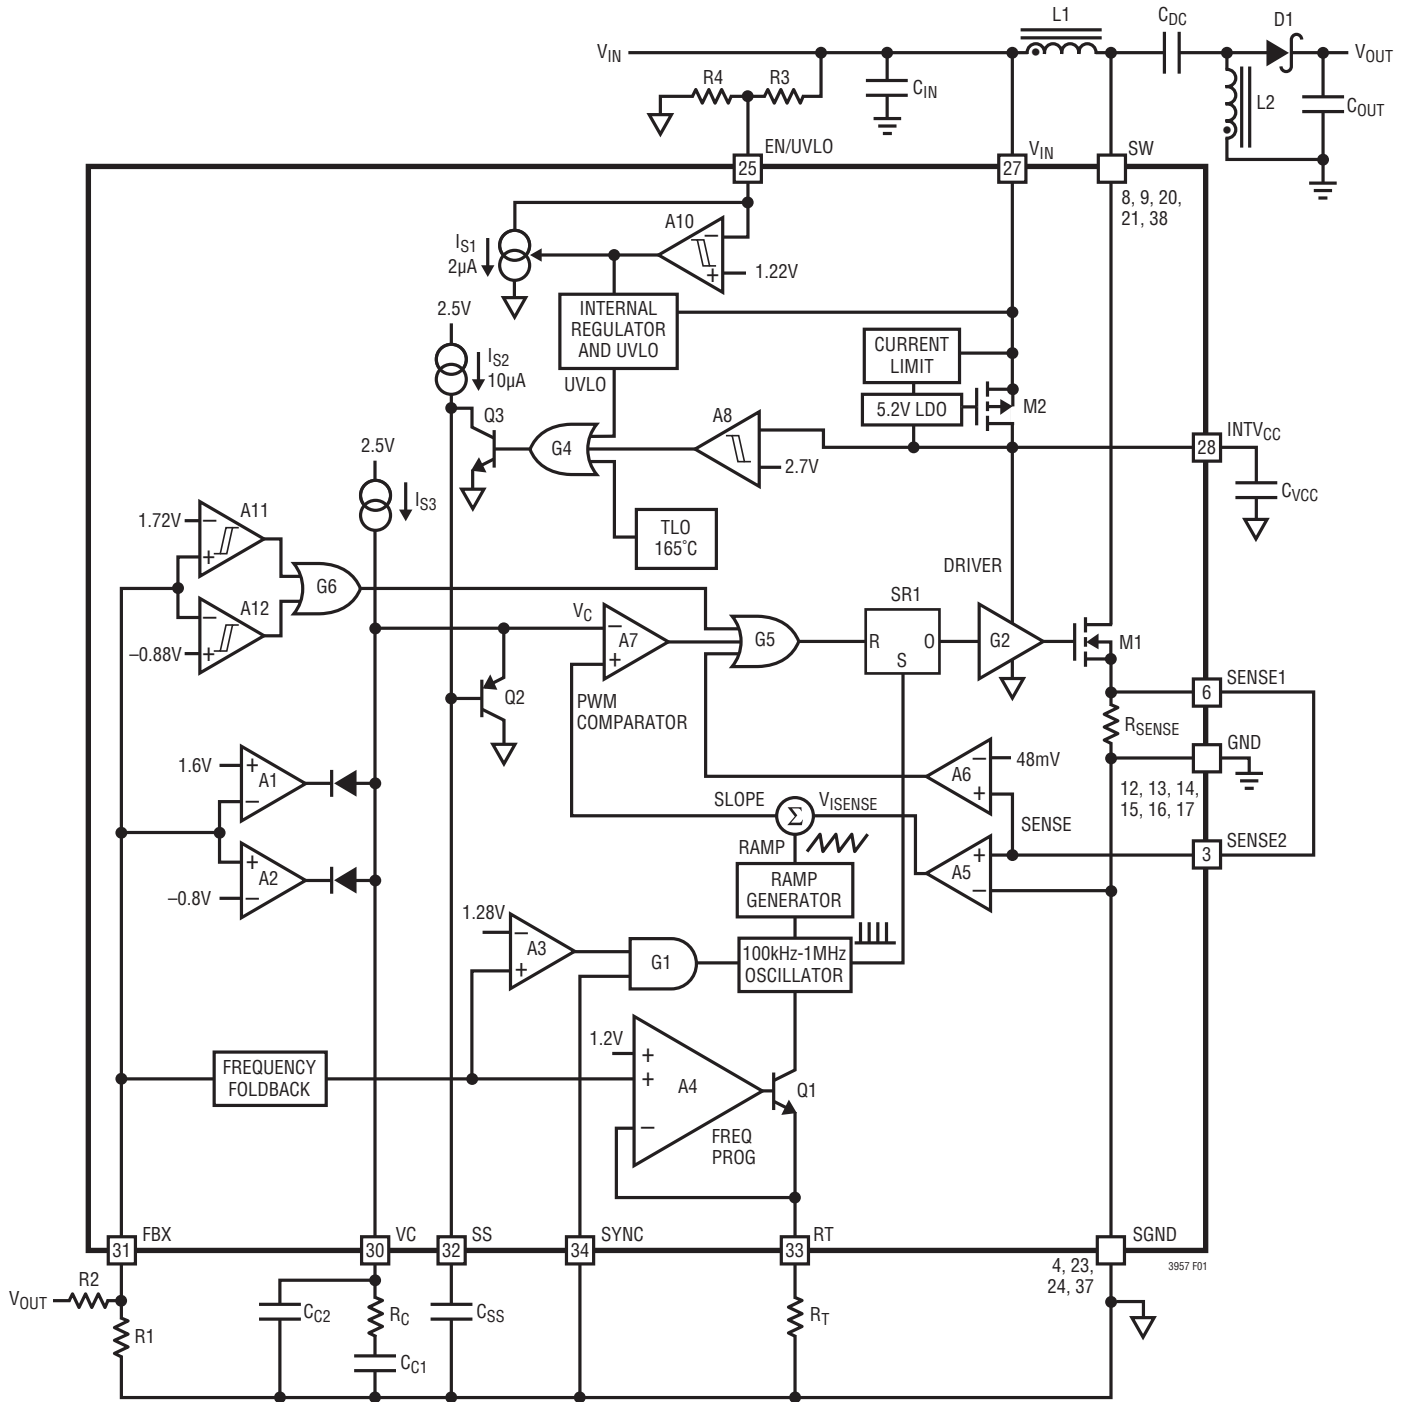

Figure 1. LT3957 Block Diagram Working as a SEPIC Converter
The LT3957 uses a fixed frequency, current mode control scheme to provide excellent line and load regulation. Operation can be best understood by referring to the Block Diagram in Figure 1.
The LT3957 is capable of generating either positive or negative output voltage with a single FBX pin. It can be configured as a boost, flyback or SEPIC converter to generate positive output voltage, or as an inverting converter to generate negative output voltage. When configured as a SEPIC converter, as shown in Figure 1, the FBX pin is pulled up to the internal bias voltage of 1.6V by a voltage divider (R1 and R2) connected from  $V_{OUT}$  to SGND. Comparator A2 becomes inactive and comparator A1 performs the inverting amplification from FBX to VC. When the LT3957 is in an inverting configuration, the FBX pin is pulled down to  $-0.8V$  by a voltage divider connected from  $V_{OUT}$  to SGND. Comparator A1 becomes inactive and comparator A2 performs the noninverting amplification from FBX to VC.
The purpose of this current is to allow the user to program the rising hysteresis. The Block Diagram of the comparator and the external resistors is shown in Figure 1. The typical falling threshold voltage and rising threshold voltage can be calculated by the following equations:
An internal, low dropout (LDO) voltage regulator produces the 5.2V INTVCC supply which powers the gate driver, as shown in Figure 1. The LT3957 contains an undervoltage lockout comparator A8 for the INTVCC supply. The INTVCC undervoltage (UV) threshold is 2.7V (typical), with 0.1V hysteresis, to ensure that the internal MOSFET has sufficient gate drive voltage before turning on. When INTVCC is below the UV threshold, the internal power switch will be turned off and the soft-start operation will be triggered. The logic circuitry within the LT3957 is also powered from the internal INTVCC supply.
If LT3957 operates at a low VIN and high switching frequency, the voltage drop across the drain and the source of the LDO PMOS (M2 in Figure 1) could push INTVCC to be below the UV threshold. To prevent this from happening, the INTVCC pin can be shorted directly to the VIN pin. VIN must not exceed the INTVCC Absolute Maximum Rating (8V). In this condition, the internal LDO will be turned off and the gate driver will be powered directly from VIN. It is recommended that INTVCC pin be shorted to the VIN pin if VIN is lower than 3.5V at 1MHz switching frequency, or VIN is lower than 3.2V at 100kHz switching frequency. With the INTVCC pin shorted to VIN, however, a small current (around 16μA) will load the INTVCC in shutdown mode.
The choice of operating frequency may be determined by on-chip power dissipation (a low switching frequency may be required to ensure IC junction temperature does not exceed 125°C), otherwise it is a trade-off between efficiency and component size. Low frequency operation improves efficiency by reducing gate drive current and MOSFET and diode switching losses. However, lower frequency operation requires a physically larger inductor. Switching frequency also has implications for loop compensation. The LT3957 uses a constant-frequency architecture that can be programmed over a 100kHz to 1000kHz range with a single external resistor from the RT pin to SGND, as shown in Figure 1. A table for selecting the value of RT for a given operating frequency is shown in Table 1.
The output voltage VOUT is set by a resistor divider, as shown in Figure 1. The positive and negative VOUT are set by the following equations:
The LT3957 addresses this mechanism with the SS pin. As shown in Figure 1, the SS pin reduces the power MOSFET current by pulling down the VC pin through Q2. In this way the SS allows the output capacitor to charge gradually toward its final value while limiting the start-up peak currents. The typical start-up waveforms are shown in the Typical Performance Characteristics section. The inductor current  $I_L$  slewing rate is limited by the soft-start function.
Loop compensation determines the stability and transient performance. The LT3957 uses current mode control to regulate the output which simplifies loop compensation. The optimum values depend on the converter topology, the component values and the operating conditions (including the input voltage, load current, etc.). To compensate the feedback loop of the LT3957, a series resistor-capacitor network is usually connected from the VC pin to SGND. Figure 1 shows the typical VC compensation network. For most applications, the capacitor should be in the range of 470pF to 22nF, and the resistor should be in the range of 5k to 50k. A small capacitor is often connected in parallel with the RC compensation network to attenuate the VC voltage ripple induced from the output voltage ripple through the internal error amplifier. The parallel capacitor usually ranges in value from 10pF to 100pF. A practical approach to design the compensation network is to start with one of the circuits in this data sheet that is similar to your application, and tune the compensation network to optimize the performance. Stability should then be checked across all operating conditions, including load current, input voltage and temperature. Application Note 76 is a good reference on loop compensation.